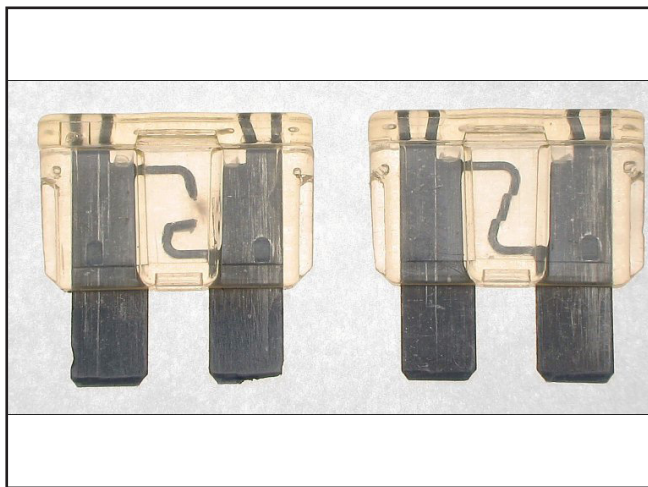

Figure 13
1. Visually inspect for a broken wire in the middle of the fuse (Figure 13).